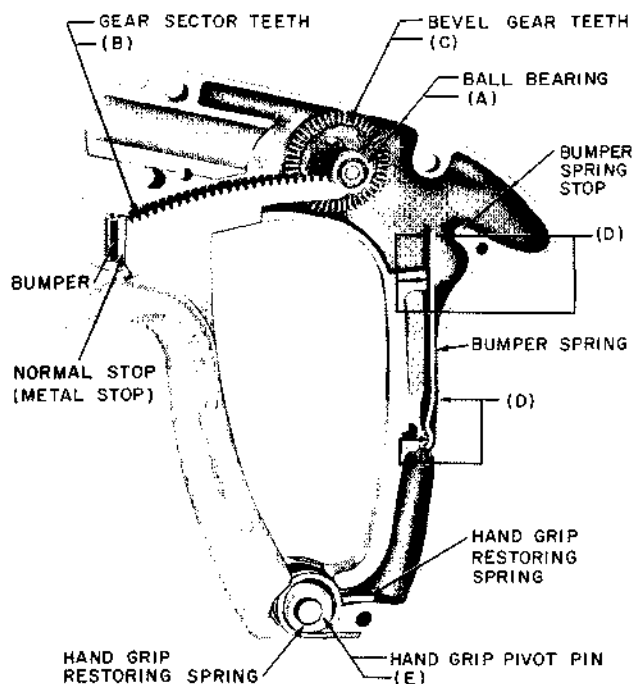

Fig. 4—KS-16363, L1 Wire-Wrapping Tool—Interior View Showing Gearing and Associated Parts
Ball Bearings, Fig. 4(A)	Space between inner and outer races of both ball bearings filled with KS-7471 grease
Teeth on Gear Sector, Fig. 4(B)	Five discharges of KS-7471 grease from the 353C grease gun distributed over the teeth
Teeth on Bevel Gear, Fig. 4(C)	Eight discharges of KS-7471 grease distributed over the teeth
Bumper Spring, Fig. 4(D)	One discharge of KS-7471 grease distributed over the five contacting surfaces in- dicated
Hand-Grip Pivot Pin, Fig. 4(E)	One drop of KS-7470 oil